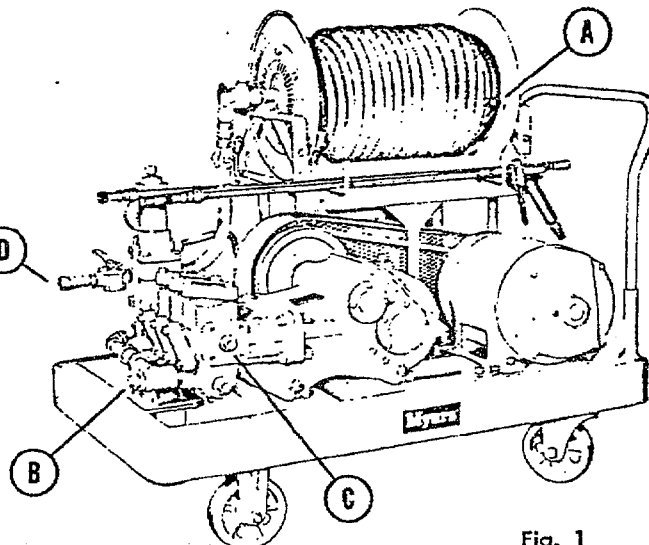
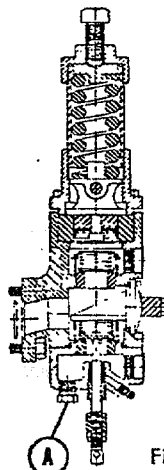

Fig. 1
Fig. 3
1. Pump crankcase has been filled thru filler plug on top (Point A—Figure 1) with 3½ qts. of SAE 40 oil to which has been added 6 fluid ounces of Molykote Fluid Concentrate. (Add 6 ounces of Molykote Fluid Concentrate to oil at every oil change.) Check with oil level mark on dip stick (Point B—Figure 1).
Badly worn plunger cups or valves and valve seats in the pump (see Figure 1) will cause a serious drop in capacity. Worn plunger cups are very easy to detect because of the leakage past the cups. The plunger cups should be replaced just as soon as this leakage is noticed. If it is allowed to continue some of the liquid may work past the plunger rod seals into the pump crankcase. Water in the pump crankcase will cause severe corrosion of the bearings. Worn valves can only be detected by visual examination of each valve assembly.
1. Remove plug C. (Fig. 1)
To drain water from regulator-unloader remove plug A. (Fig. 3) Make sure plug C (Fig. 1) is removed to properly drain unloader.